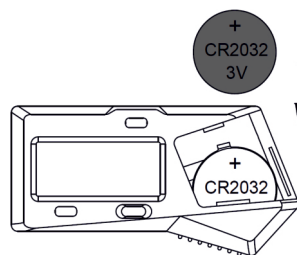

Fig. 2
- » Insert the CR2032 battery so that the positive side (+) faces outward (Fig. 2).
- » For a disc-shaped contact point measuring the depth of grooves inside a hole, gently pull the millimeter scale so the inner measuring surface of the contact point rests on a flat surface. Set the zero value by holding the “SET” button. Then measure depths A1 and A2 (Fig. 2). The thickness of the disc-shaped contact point is  $x$ , and the value of A2 equals the reading plus  $x$ .